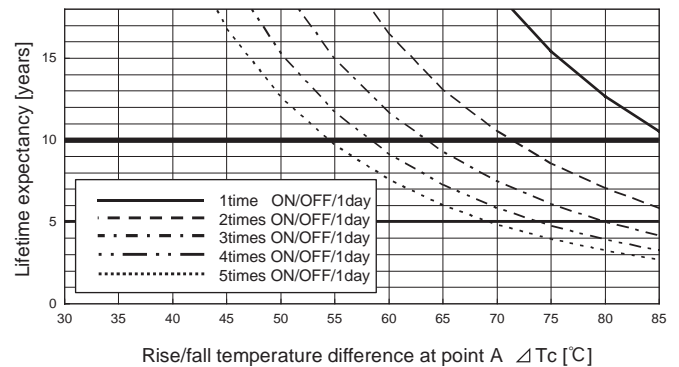
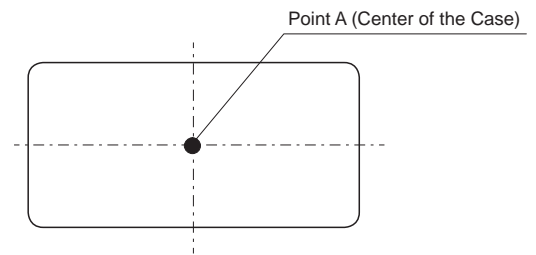

Fig.12.3 Lifetime expectancy against rise/fall temperature difference
Fig.12.4 Temperature measuring point (Top View)
- Product lifetime expectancy depends on case temperature difference (ΔT_c) and number of cycling in a day is shown in Fig.12.3 (It is calculated based on our accelerated process test result.) If case temperature changes frequently by changing output load factor etc., the above the lifetime expectancy design should be applied as well. And point A which is shown in Fig.12.4 must keep below 110°C.
- The warranty period is basically 10 years, however it depends on the lifetime expectancy which is shown in Fig.12.3 if it is less than 10 years.